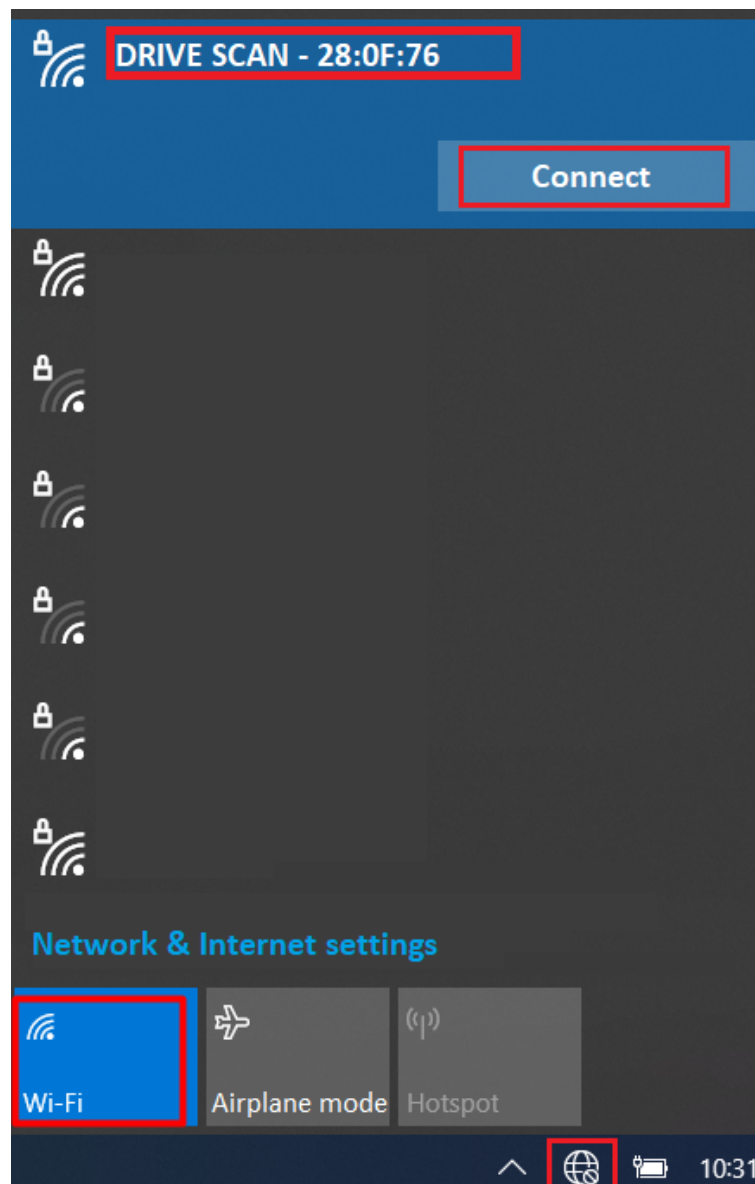

Figure 6.2: Preparing for the Drive Scan configuration
Step 1 With Drive Scan turned on and nearby, access the list of available Wireless devices (via **Wi-Fi AP**) (Windows), as per Figure 6.2. In the case illustrated as an example, the Drive Scan access point has the network named “Drive Scan - 28:0F:76”.